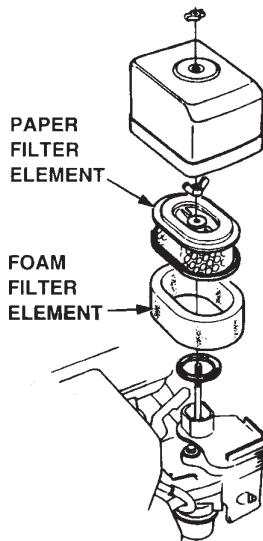

Figure 16. Air Filter
2. To clean or replace air filter, loosen the wing nut on the air filter housing (Figure 16). Remove the cover and take out air filter cartridge. If only cleaning of the air filter is desired, blow through the air filter cartridge from the inside, moving a jet of dry compressed air up and down until all dust is removed.